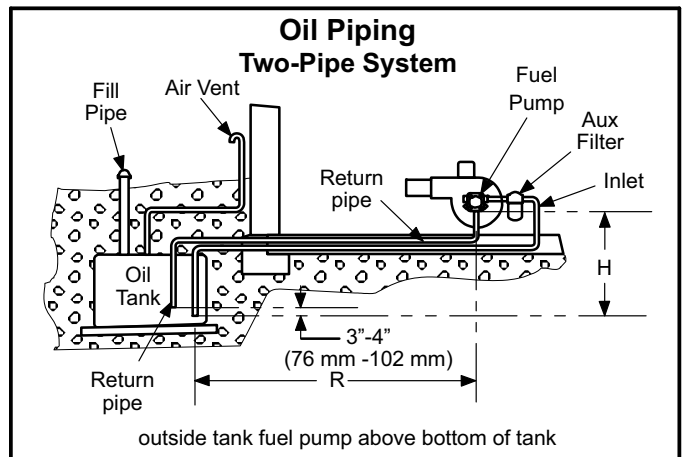

Figure 13
When using a two-pipe system with the oil tank below the level of the burner, a single-stage fuel pump should be used in lift conditions of up to 10 feet (3 m) and/or a vacuum of 10" (254 mm) Hg or less. See figure 13. Use a two-stage fuel pump when lift exceeds 10 feet (3 m) and/or a vacuum of 10" (254 mm) Hg to 15" (381 mm) Hg. Both conditions require that you use of a two-pipe system, which consists of a return line that purges the fuel pump of air by returning it to the tank. To determine the run and lift for piping, refer to table 3.
- 2 - Insert bypass plug and tighten it. See figure 13.
- 4 - The return pipe must terminate 3" to 4" above the supply pipe inlet. See figure 13.